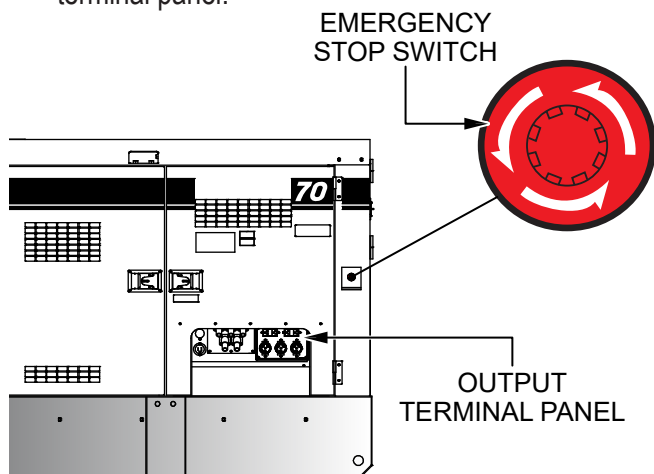

Figure 69. Emergency Stop Switch
1. Press the **Emergency Stop switch** (Figure 69), located on the side of the generator next to the output terminal panel.